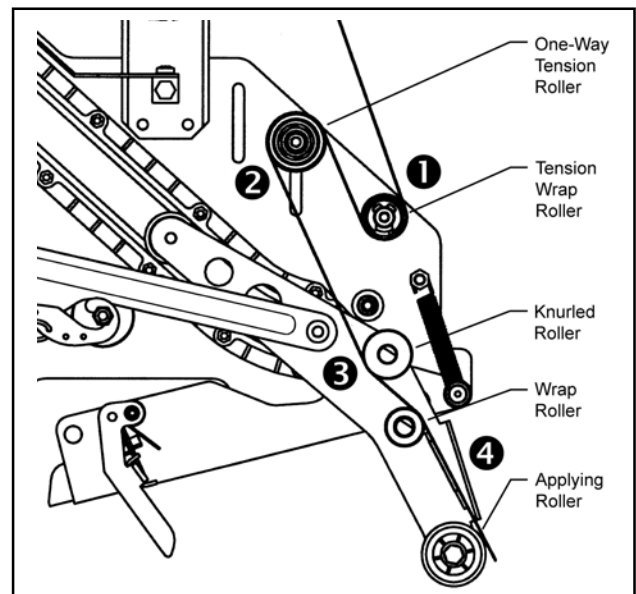

Figure 3-3—Tape Loading and Threading
2. Use Figures 3-3 to 3-5 and tape threading label. Position the tape supply roll so the adhesive side of tape is facing the front of the taping head as it is pulled from the supply roll.
Insert threading needle through rollers in direction indicated by arrows as shown in Figure 3-3.